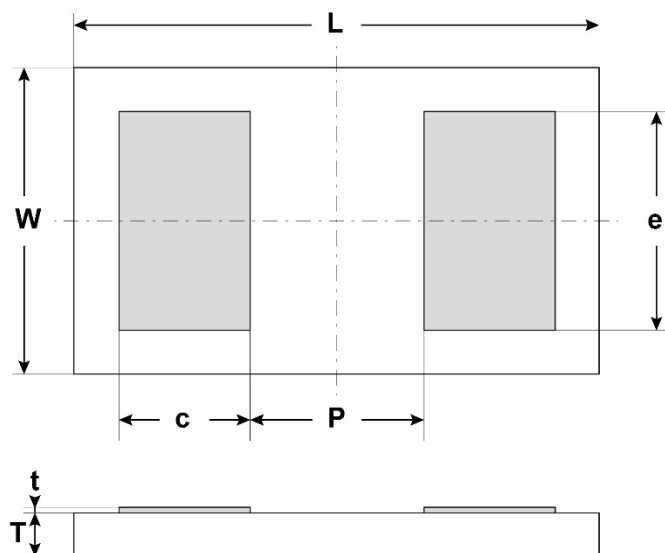

Figure 7 - Package isometric view
- (1) Other film frame carriers are possible on request
(2) ENIG : 0.1µm Au / 5µm Ni
(3) missing capacitors can reach 0.5%
(4) refer to figure 7